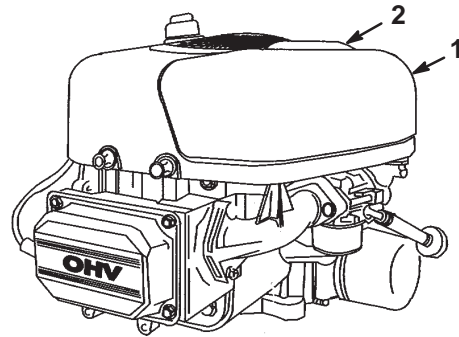

Figure 23
7. Pull up on the air cleaner cover handle and rotate it toward the engine (Fig. 23).